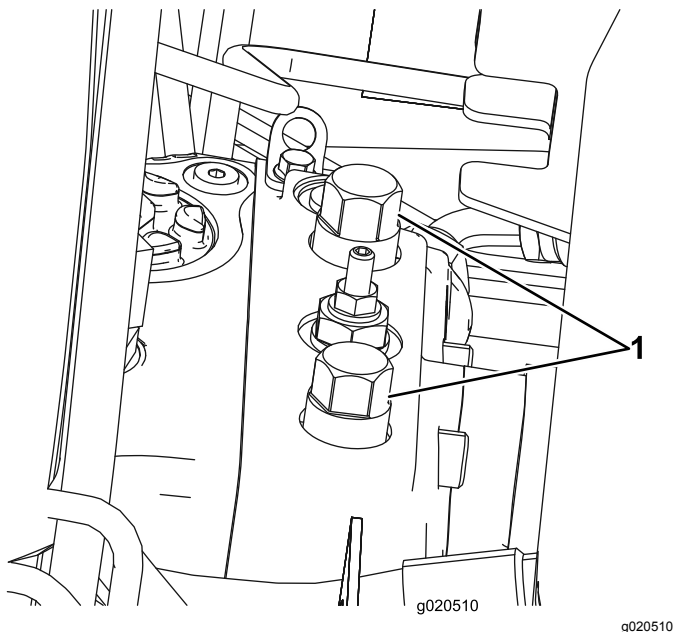

Figure 20
1. Open the hood and locate the bypass valves (Figure 20) on the top of pump, behind the battery/storage boxes.